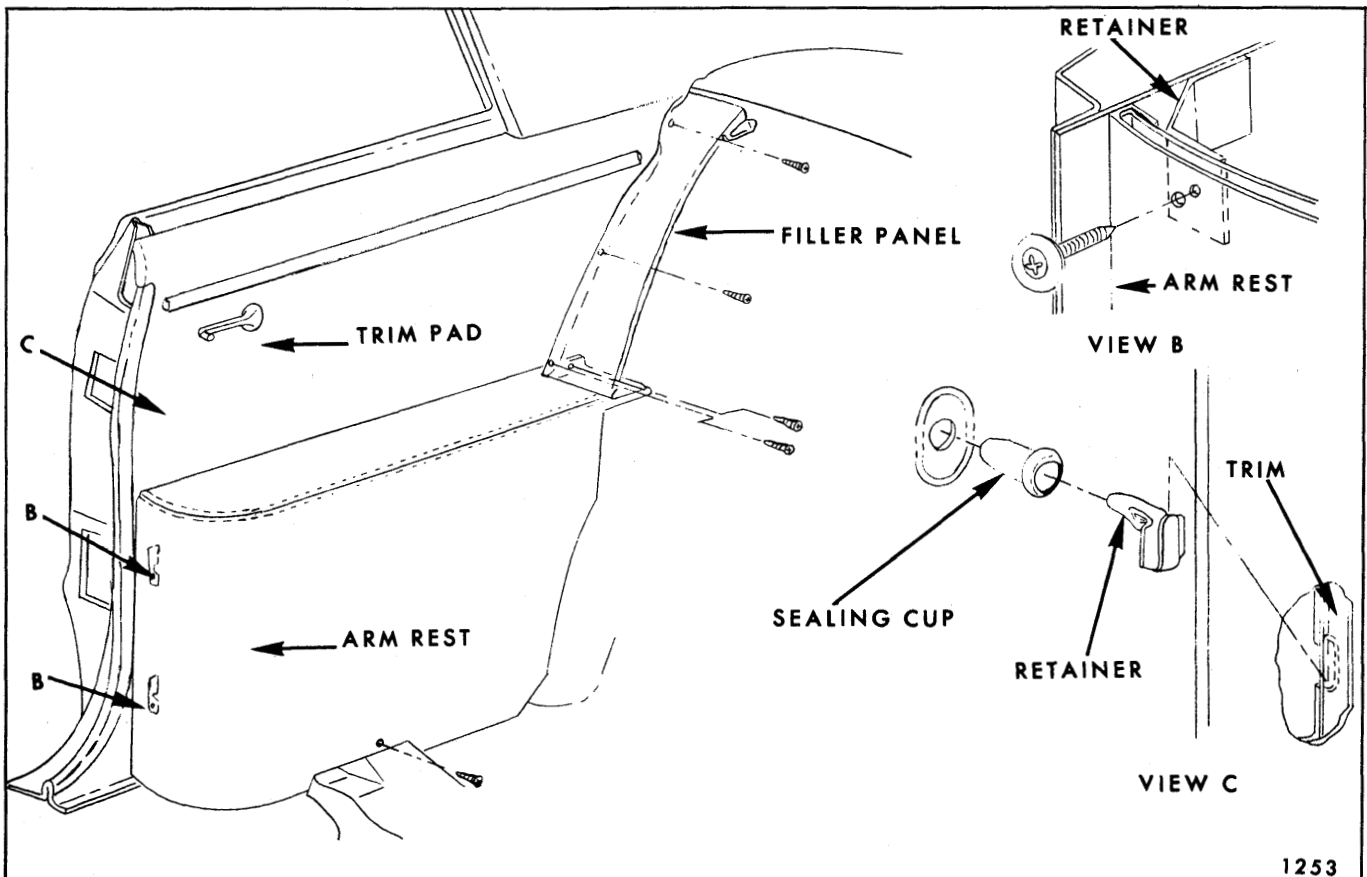

Fig. 8-1—Rear Quarter Trim Assembly (Insert Type)
2. Remove seat back filler panel to rear quarter inner panel attaching screws (Figs. 8-1 and 8-2) and remove filler panel.
3. Remove arm rest attaching screws at front, rear and bottom arm rest (Figs. 8-1 and 8-2).
Remove front door sill plate and disengage rear body lock pillar finishing strip. With a screwdriver, or other suitable flat bladed tool, disengage trim assembly retaining clips from sealing plugs along leading edge of rear body lock pillar (Fig. 8-1).
Also remove lock pillar finishing cap. With a screwdriver or other suitable flat bladed tool, disengage trim assembly retaining clips from sealing plugs along leading edge of rear body lock pillar (Fig. 8-1, View "C"). Lift trim assembly upward to disengage top of trim from top of rear quarter inner panel.